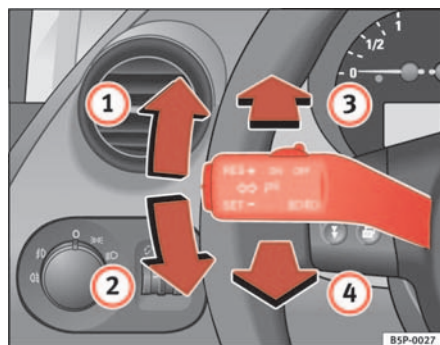

Fig. 78 Turn signal and main beam headlight lever
- Move the lever all the way up ⇒ **fig. 78 ①** to indicate **right**, and all the way down **②** to indicate **left**.
- Press the lever forward ⇒ **fig. 78 ③** to switch on the main beams.